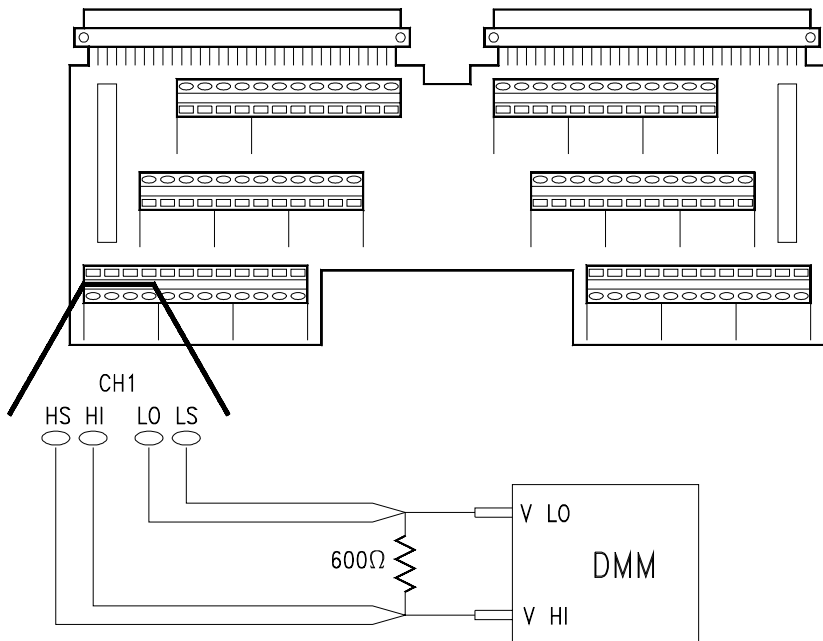

Figure 4-2. DC Voltage Output Connections (Channel 1)
1. For each channel in the module, connect the 600 Ω resistor and the DMM as shown in Figure 4-2. Channel 1 connections are shown in the figure. Connect the other channels in a similar manner. Set the DMM to measure dc voltage.